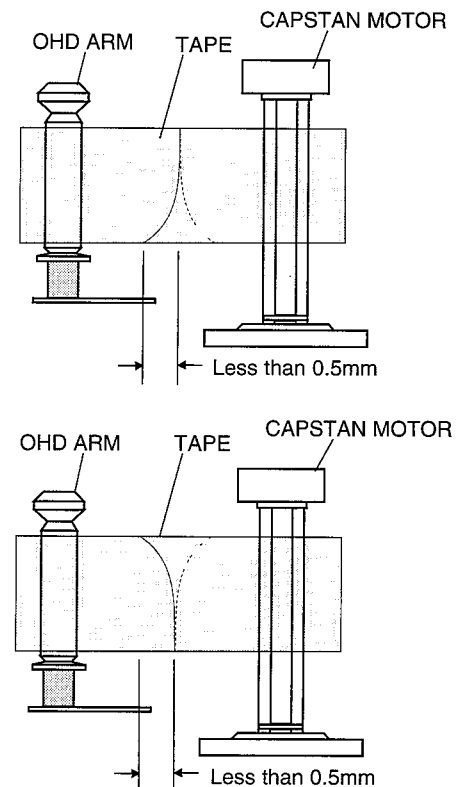

Fig. 3-7
3.5 OHD Arm Height Adjustment (Fig. 3-7)